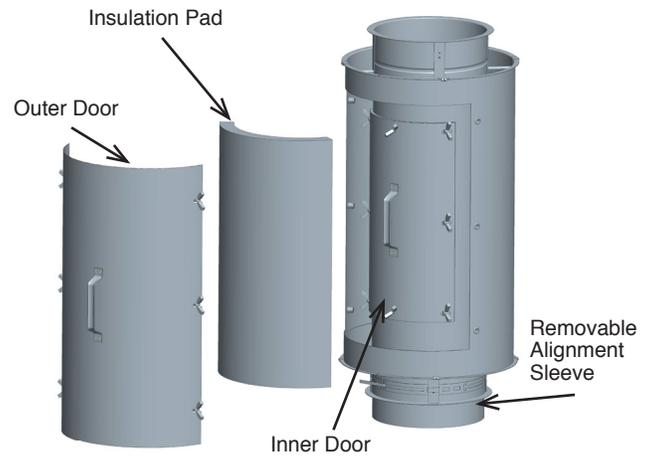

Figure 47: Step 1-3 of Removal for Inspection for the ADL
- 3- Remove the insulation pad and set it in a safe place during the inspection. See **Figure 47**.